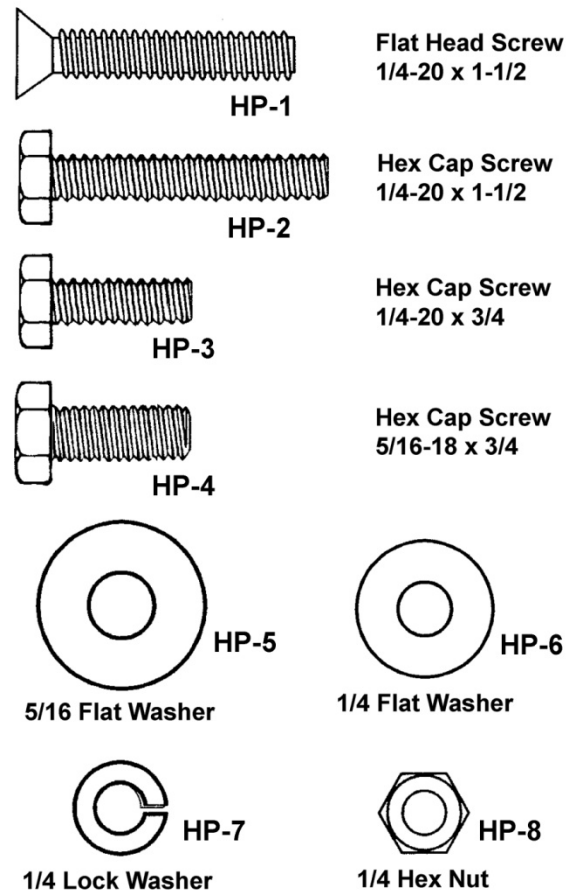

Figure 1
* Hardware package is shipped inside guide tube. Contents are shown full scale in Figure 1.